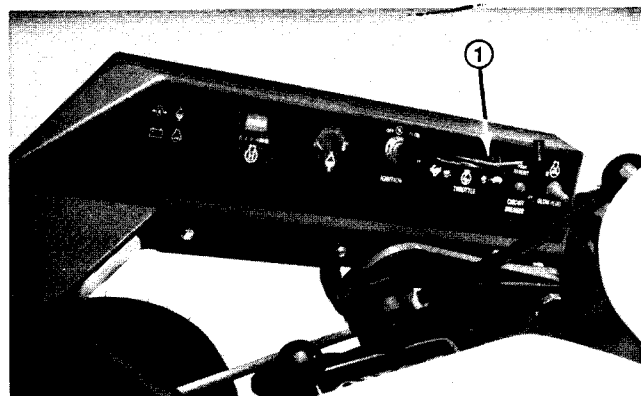

Figure 13
3. Move the throttle lever (Fig. 13) to the maximum speed position (all the way forward).